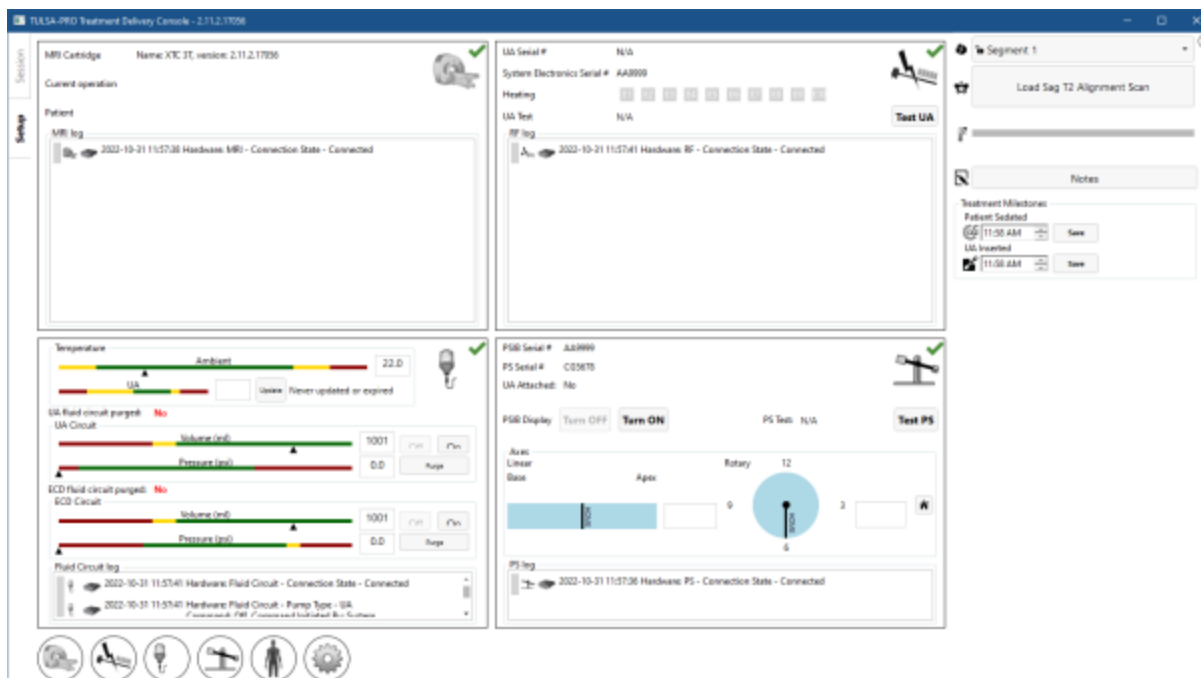

Figure 5: Setup workspace of the TDC software
2. After selecting **New Session**, you will enter the **Setup** Workspace (*Figure 5*) where you can ensure all equipment is functioning properly before proceeding. A green checkmark will appear in the MRI quadrant of the Setup Workspace if the TDC computer and MRI host can communicate with each other, and a patient is currently open with the TULSA-PRO® MRI sequence protocol on the MRI console.